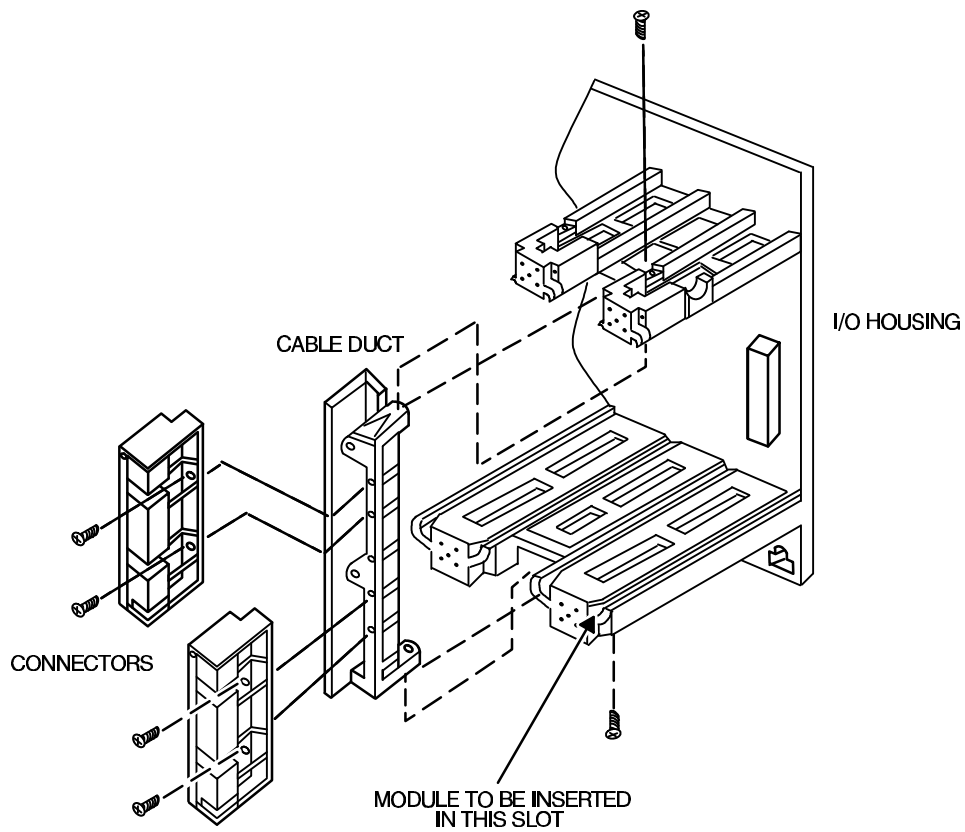

Figure 1 Cabling Duct/Field Connector Assembly
- Step 6** As shown in Figure 1, Mount the new field connector/duct assembly to the left of the module's designated housing slot and secure it to the housing top and bottom using the two Phillips head machine screws provided.